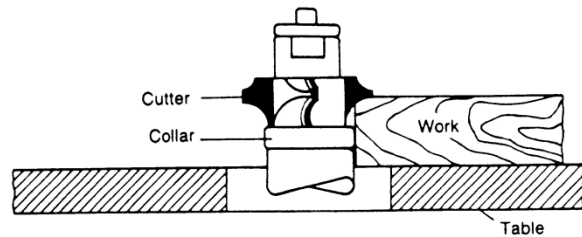

Figure 17
1. When using the collar below the cutter (Figure 17), you can always observe the progress of the cut. A disadvantage of this method is any accidental lifting of the work will gouge the wood and ruin the workpiece.